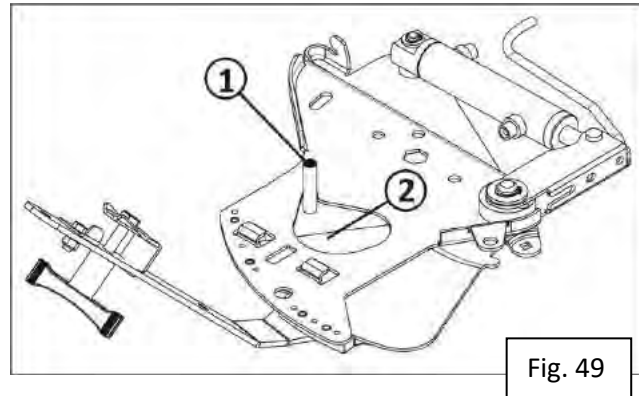

Fig. 49
For this, the transversal section of unloading hole (Fig.49/1) is adjusted with a gauge (Fig.49/2) (hole gauge $\varnothing 12$ mm gib).
3. Place the $\varnothing 12$ mm diameter round to the hole (Fig.49/1).